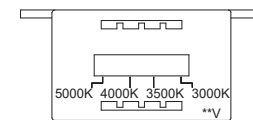

Fig. 2 Wiring
WIRING AND HANGING FIXTURE (Fig. 1, Fig. 2, Fig. 4)
11. Connect the driver's input wires to the junction box wires (Fig. 2) using wire connectors (A) provided. Ensure all wire connectors are secure. Connect the fixture's ground wire to the ground in the junction box; this will be either a green wire or a bare copper wire. After fixture is wired to house wires, tuck wires carefully inside the junction box.
12. Lift and mount the canopy against the mounting plate. Rotate the canopy in the direction of the arrow until it stops. Fasten the canopy in place using the mounting screw (B).
(OPTIONAL) DIMMER WIRING (Fig. 2)